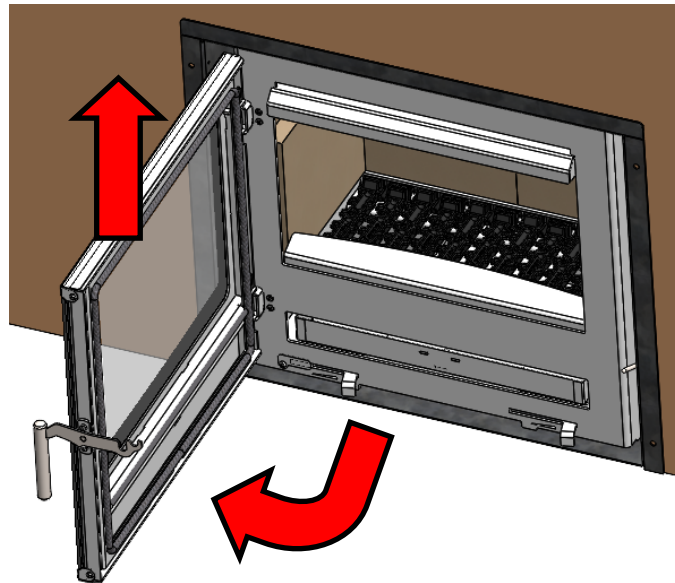

Fig. 13. Removing The Door Assembly
- On the fitted cassette appliance, remove the door assembly, by opening the door to 90 degrees to the front of the stove. Gently apply an upward force whilst lifting the door assembly and remove to door from its hinges. See Fig. 13.